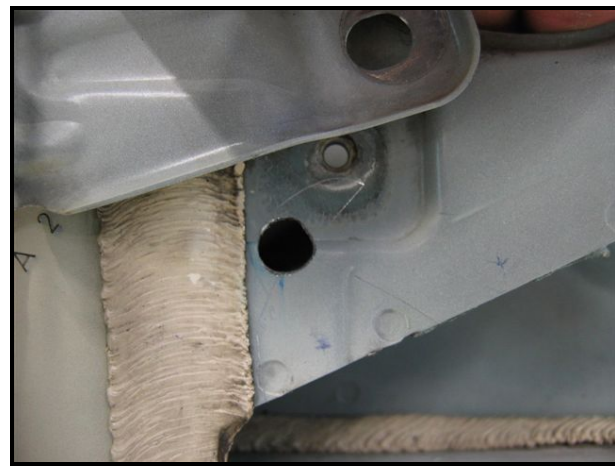

Figure 4
7. Mark the position for the additional water drain hole 7mm away from the edge of the seam sealer. Drill a 10mm hole in incremental steps reference Figure 4.